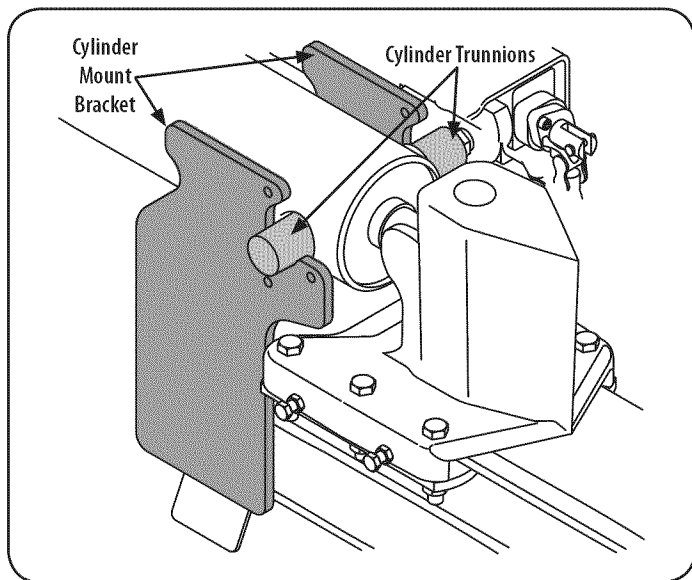

Figure 7
18. Lift and slide the cylinder up to the top of beam and place the cylinder trunnions into the cylinder mount brackets as shown in Figure 7.